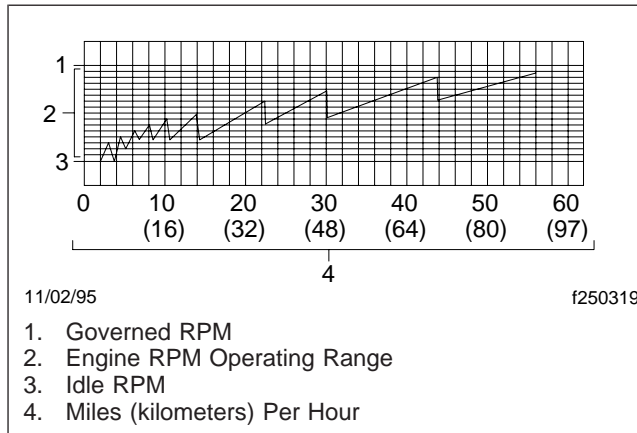

Fig. 7.7, Progressive Shift Pattern
4. If the vehicle can be operated in a higher gear after reaching the desired speed, select the highest gear available that will pull the load. Experience with your vehicle will show you what rpm is needed to make upshifts under various conditions. This progressive shifting technique will lower fuel costs because the engine will be operating at the lowest rpm needed to pull the load. See Fig. 7.7 for a progressive shift pattern.